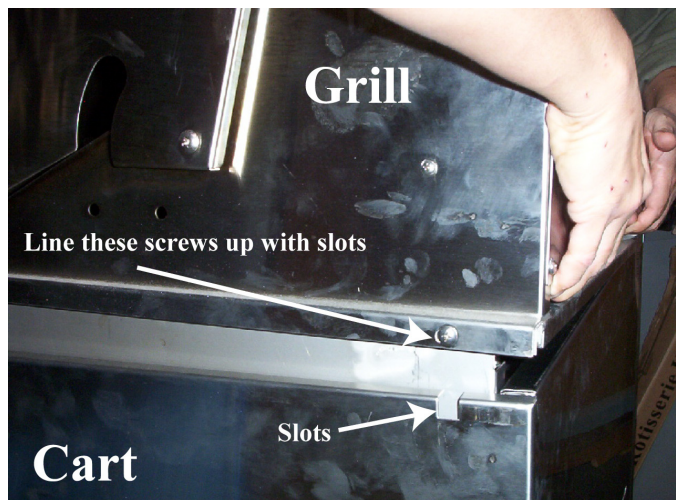

Figure 11. Lowering the grill onto the cart
1. Slowly lower grill unit onto the cart, making sure that screws line up with slots on top of cart (Figure 11). Ensure that no electrical chords or gas lines become trapped between any part of the cart and any part of the grill.